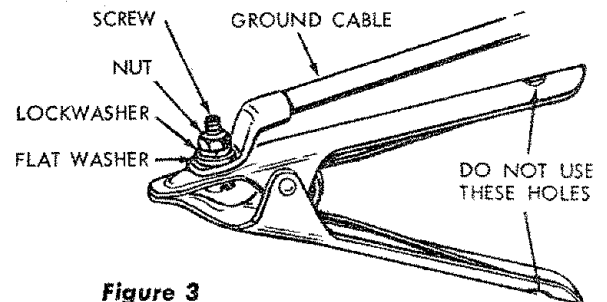

Figure 3
1. Attach the terminal on end of ground cable to the ground clamp, at the hole near the nose of the clamp, with the 1/4-20 x 3/4-inch screw, 1/4-20 nut, 17/64-inch flat washer and 1/4-inch lockwasher furnished in the loose parts bag. (See figure 3.)
4. Check the "ON-OFF" switch on cabinet to make sure it is "OFF" (figure 3) and connect the plug on welder cord to the receptacle.